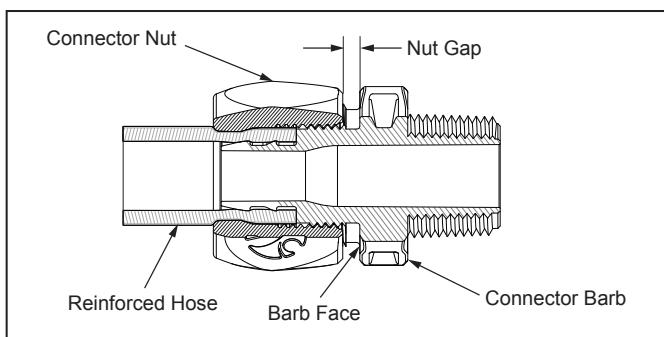

Figure 6. Tighten Connector Nut to Secure Hose
- Slide/Rotate the connector nut to the barb to engage threads correctly, do not cross thread connector nut. Tighten the connector nut until threads are no longer visible (gap about 1/8" or just less than the width of two dimes), or until it touches the barb face. See Figure 6.
1. Verify that the installation is correct. Refer to Figure 6.